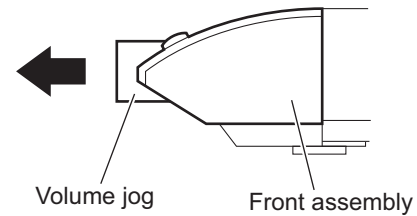

Fig.2
3.2.2 Removing the SW board (See Figs.2 to 3)
- (2) From the top side of the DVD mechanism assembly, remove the two screws **A** attaching the leaf spring to the bushing and remove the leaf spring. (See Fig.2.)